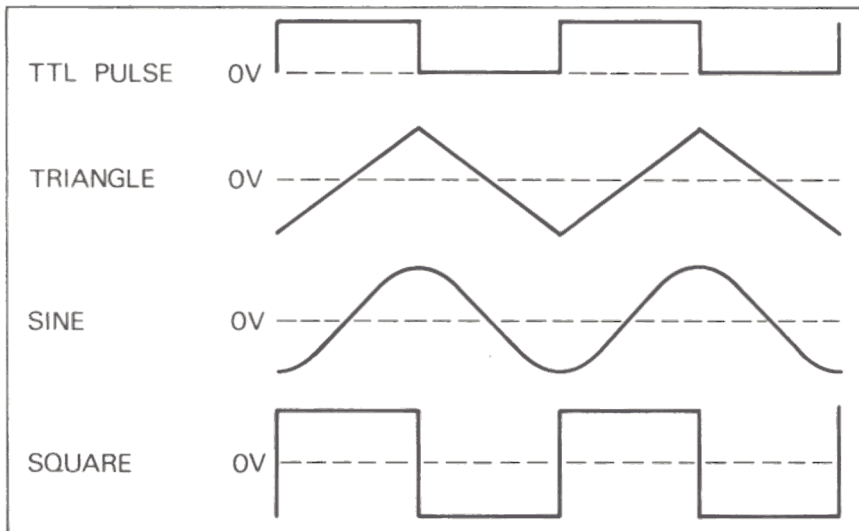

Fig. 3. Output waveform and phase relationships.
- With the unit plugged into a power source, depress the POWER button (1).
2. Select the frequency range desired by depressing the appropriate RANGE switch. The frequency range obtained as the FREQUENCY dial (6) is varied will be from one-tenth the indicated RANGE value to 10 times this value. For example, select the 10 K range. When the FREQUENCY dial is at .1, the output frequency is 1 KHz; when at 1, it is 10 KHz and when at 10 the frequency is 100 KHz. The frequency obtained applies to the signal at the TTL jack as well as the 600 Ω OUTPUT jack.
3. Select the waveform desired by depressing the appropriate FUNCTION button. The phase relationships of the waveforms available are shown in Fig. 3.
4. The amplitude of the selected output signal at the 600 Ω OUTPUT jack is adjusted by AMPLITUDE control (4). The TTL output is not affected by the AMPLITUDE control.